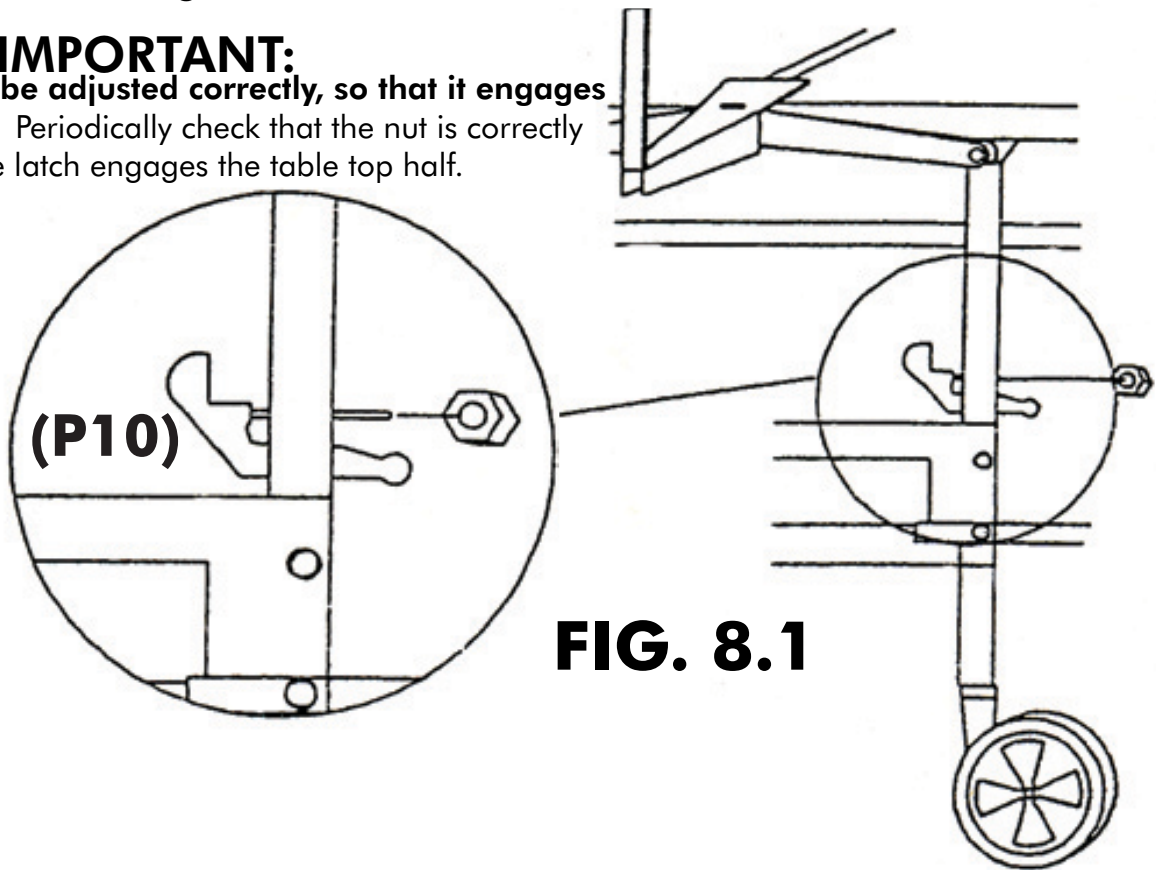

FIG. 8.1
STEP 8. (Fig. 8.1) Attach four Safety Catches **(P10)** to the U-Supports **(P14)** using holes just above trays **(P9)**. Screw nut onto Safety Catch **(P10)** but do not tighten to legs. These must be loose enough to swivel.